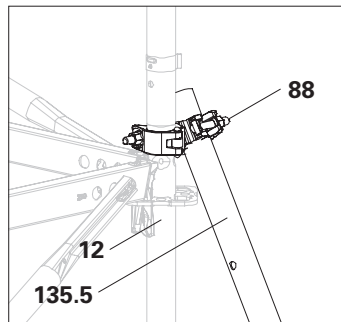

Fig. A15.05a
(Fig. A15.05a):
4. From a safe work location, mount the inner tube to the standard (**12**) with a swivel coupling (**88**). Push the coupling as close as possible to the rosette and tighten. (Fig. A15.05a)